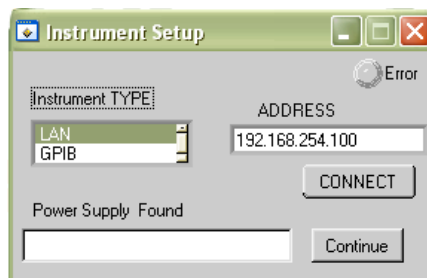

FIGURE 3-1. GPIB VISA DRIVER START-UP
3. At the Start-up screen (see Figure 3-1) select the type of interface, LAN or GPIB, and enter the correct GPIB address or LAN address in the **Address** field and click **CONNECT**.